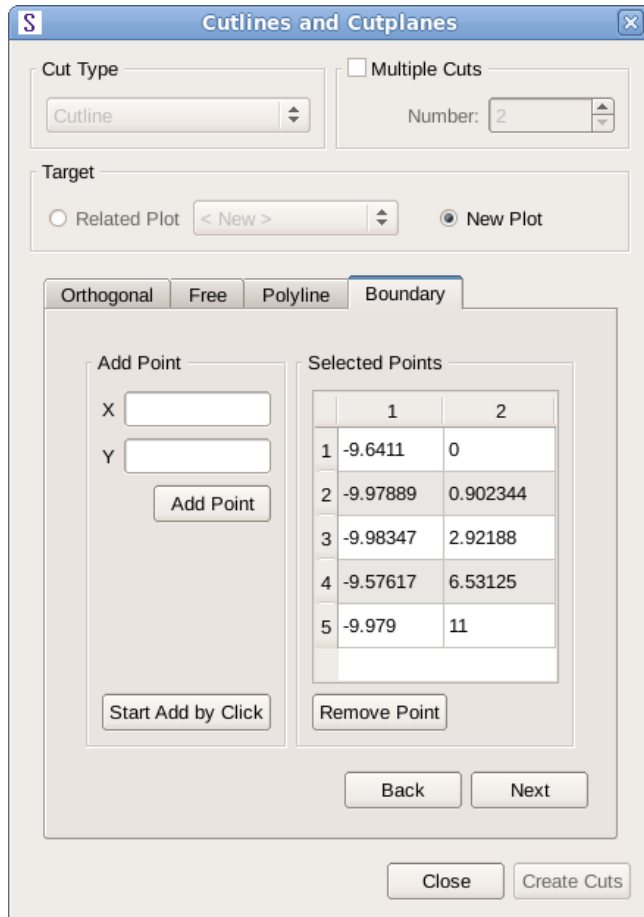

Figure 97 Step 2: adding vertex points
- b) Use the Add Point fields to enter the x- and y-coordinates for a point. Click the **Add Point** button. The point is listed in the Selected Points pane. Continue to add points as required (see Figure 97).